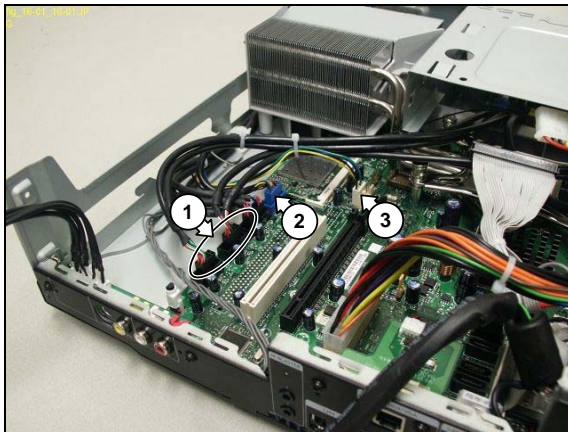

Figure 12.16-1
7. Disconnect the 3 USB cables (1) from the motherboard. See Figure 12.16-1.
8. Disconnect the 1394 cable (2) from the motherboard. See Figure 12.16-1.
9. Disconnect the CPU fan cable (3) from the motherboard. See Figure 12.16-1.